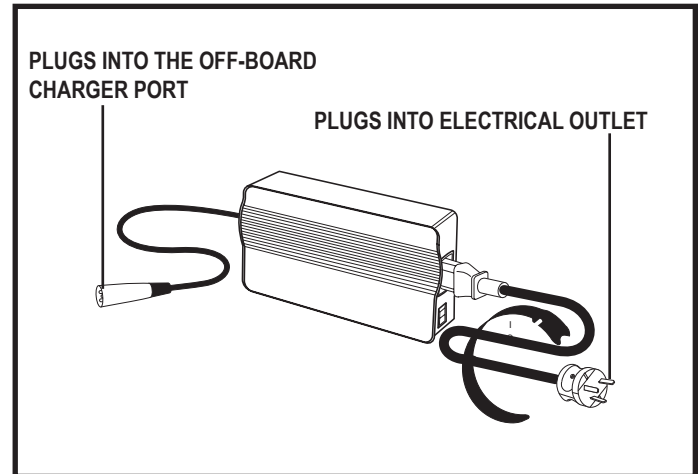

Figure 11. Off-Board Charger
5. Plug the 3-pin charger power lead into the off-board charger port. **See figure 11.**